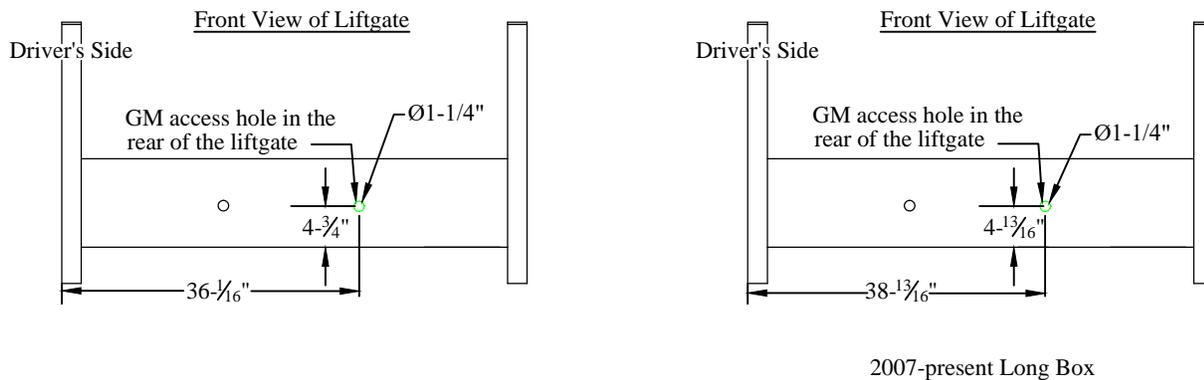

Figure 12: Spare tire access holes.
2. **Remove** the black plastic plug from the mainframe in the location shown (Figure 12).